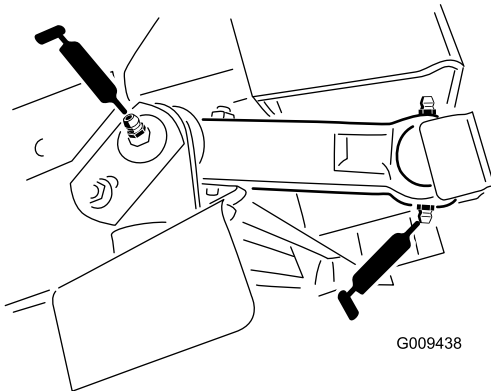

Figure 43
- Lower link pivot (4) (Figure 43)
- Upper link pivot (4) (Figure 43)